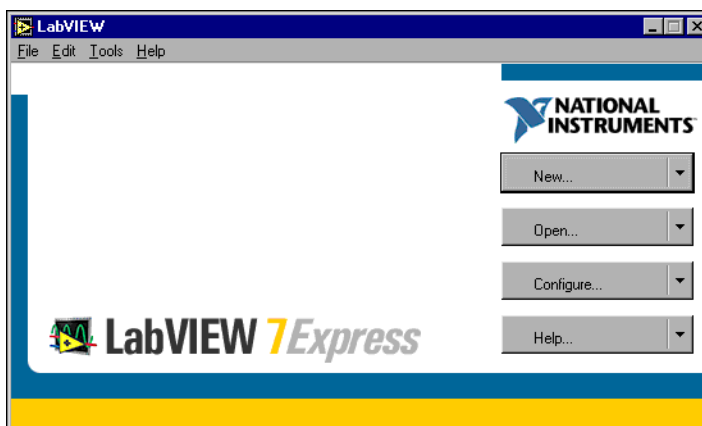

Figure 1-2. LabVIEW Dialog Box
2. In the **LabVIEW** dialog box, shown in Figure 1-2, click the **New** button to display the **New** dialog box.